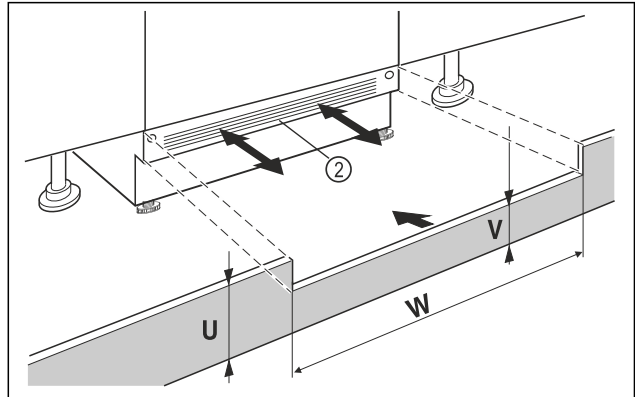

Fig. 62 Example illustration
- ▶ Put on the appliance base cover Fig. 62 (2) but do not fix it in place yet.
- ▶ If the base panel is visible Fig. 62 (2), pull it forwards so that the front edge of the ventilation grille and the unit base panel are level.
- ▶ If the base panel is concealed Fig. 62 (2), push it all the way back.
- ▶ Ensure that the ventilation slots are completely free: If necessary, cut the height of the unit base panel Fig. 62 (U) to size!
- ▶ Adjust the web height Fig. 62 (V) under the appliance base panel Fig. 62 (2) along the niche width Fig. 62 (W).